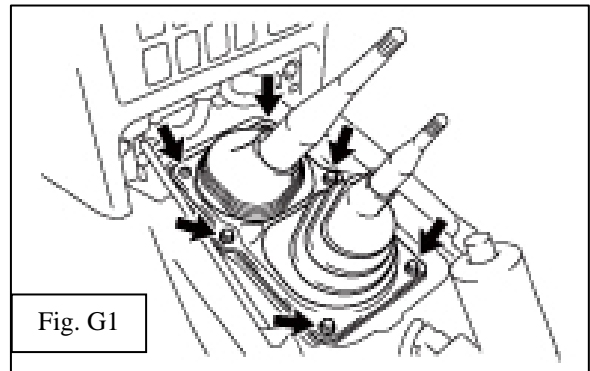

Fig. G1
1. Remove the rear 4 screws. (Fig. G1)
2. Remove front 2 clips by depressing the center pin down with a small screwdriver, and then lift the shift lever boot flange up to disengage the clips. Save clips and screws for re-use. (Fig. G1)